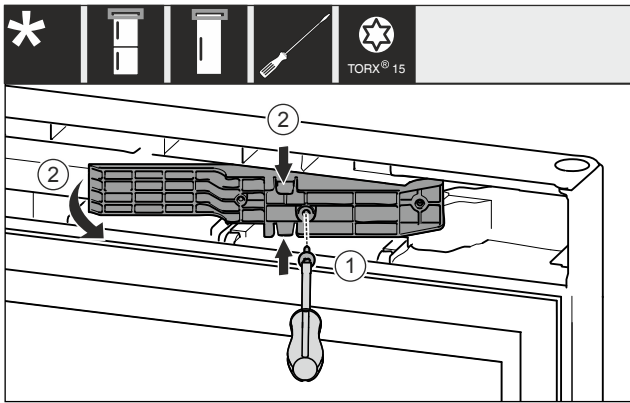

Fig. 12 *
- ▶ Loosen the screws with the T15 screwdriver. Fig. 12 (1)*
- ▶ Pull out the adaptor. Fig. 12 (2)*